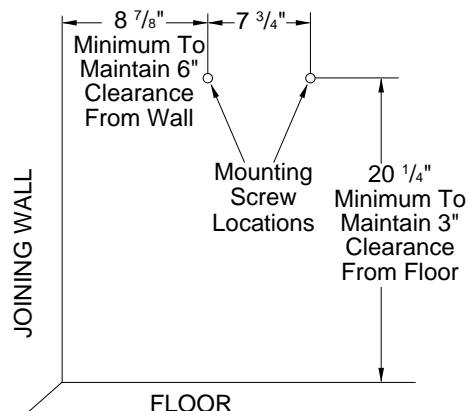

Figure 5 - Mounting Screw Locations
**WARNING:** Maintain minimum clearances shown in Figure 5. If you can, provide greater clearances from floor and joining wall.
2. Mark two mounting screw locations on wall (see Figure 5).